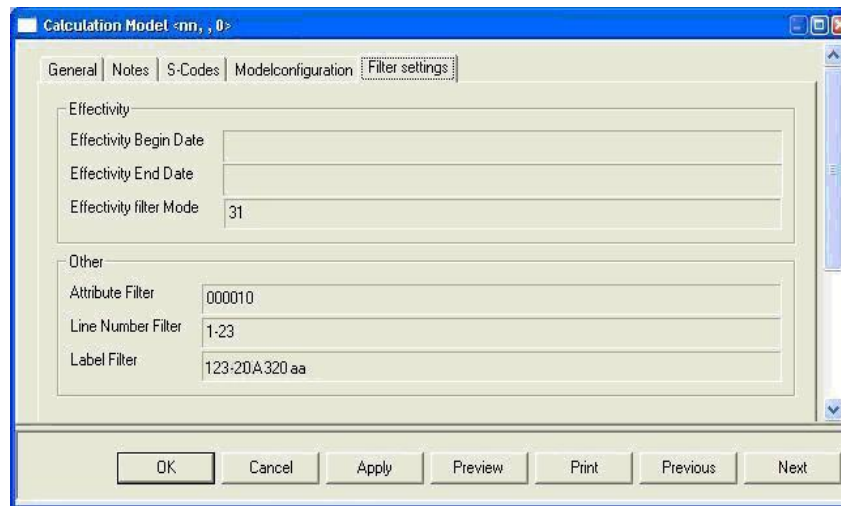

Figure 87: Context Menu on the Project Node Level
- 7) To view the label filter, click **Filter Settings** tab. *Please refer to the Figure 87.*